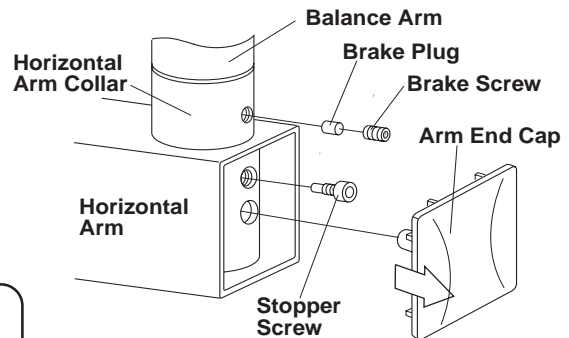

Fig.3-14B Attaching Balance Arm to Horizontal Arm
- Insert the brake plug and brake screw (M6 x 6mm) into the horizontal arm collar. (Fig.3-14B)
- Remove the end cap from horizontal arm. Insert the stopper screw into upper threaded hole inside horizontal arm and tighten securely. Replace the end cap. (Fig.3-14B)
If the end of the horizontal arm shown in position #1 is pitched below level, then the tube head will drift away from the wall. If the end of the horizontal arm in position #1 is pitched above level, then the arm will require only minimum adjustment of the brake screw. (Fig.3-14B)